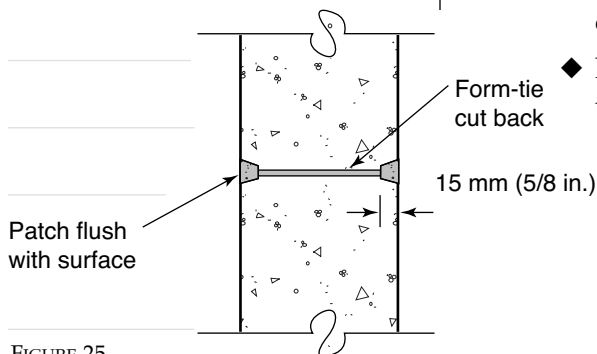

FIGURE 25
- ◆ Cut back tie-holes and other repaired areas by a minimum of 15 mm (5/8 in.) (see Figure 25).